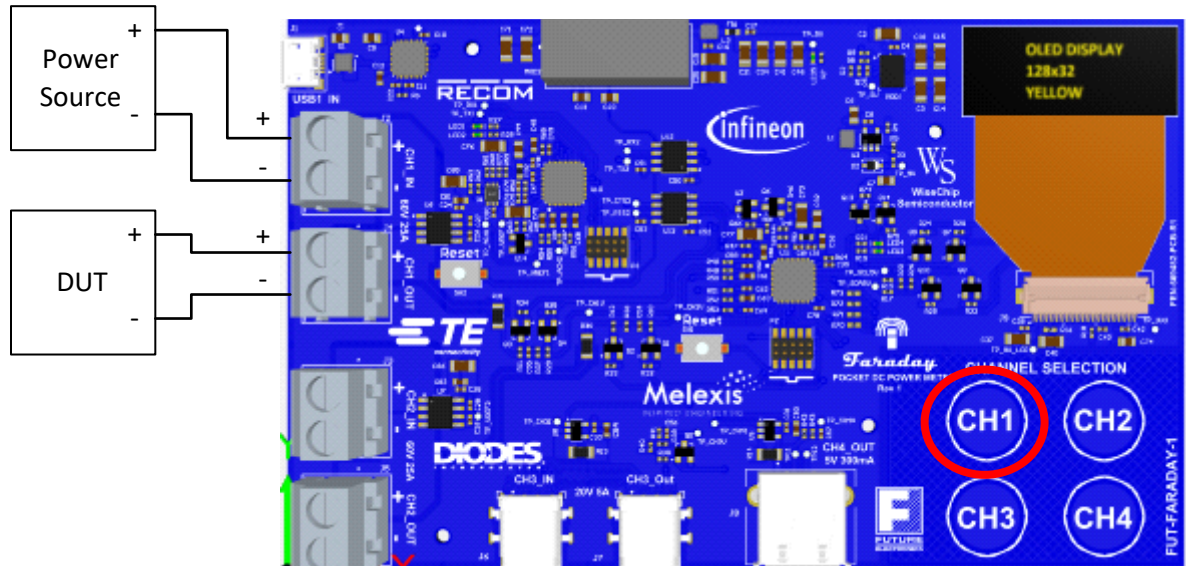

Figure 1. Voltage, Current & Power Measurement Using Channel 1
1. Connect Power Source and Device Under Test (DUT) in series to Channel 1 (or 2) to measure Voltage, Current and Power as shown in **Figure 1**